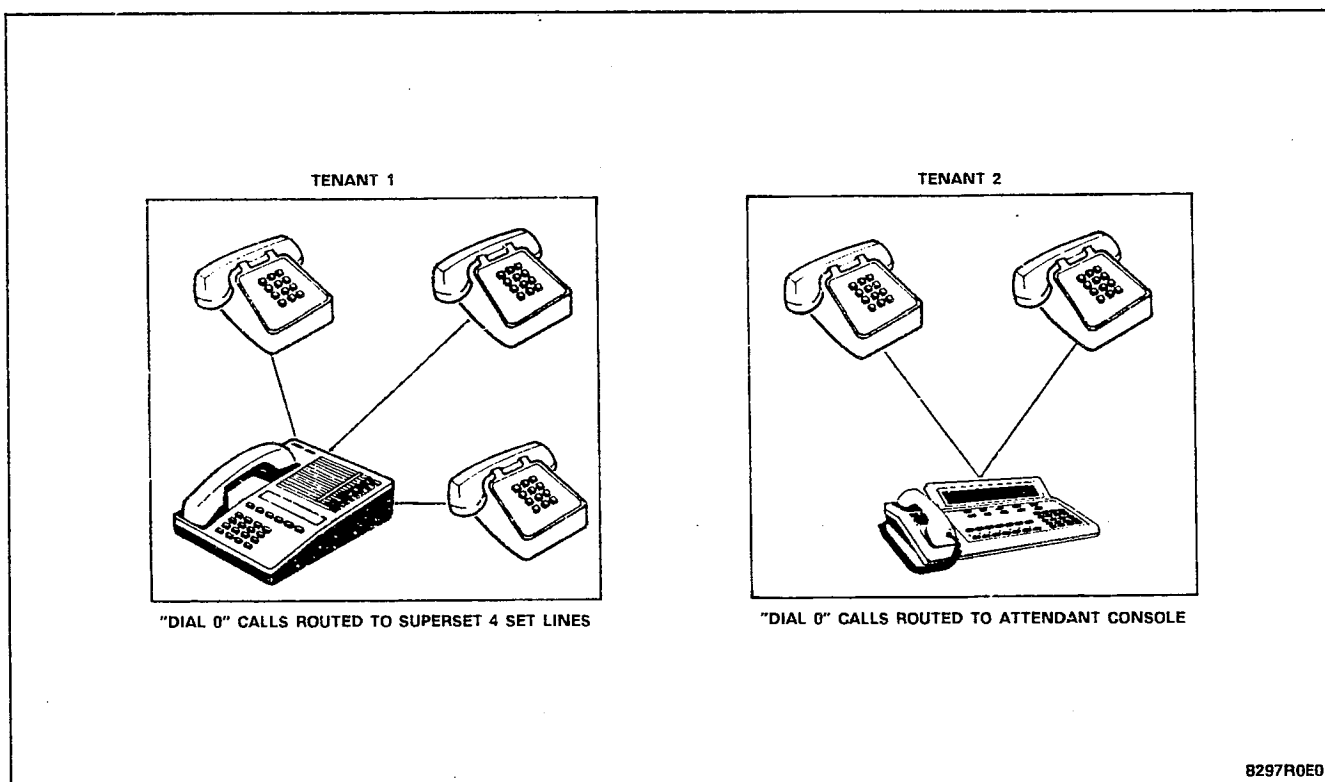

Figure 2-5 "Dial 0" Call Routing
2.18 Any tenant group may operate with a central attendant position handling incoming calls and "Dial 0" calls, or may program its own Day/Night directory numbers to route "Dial 0" calls. Figure 2-5 shows two examples.